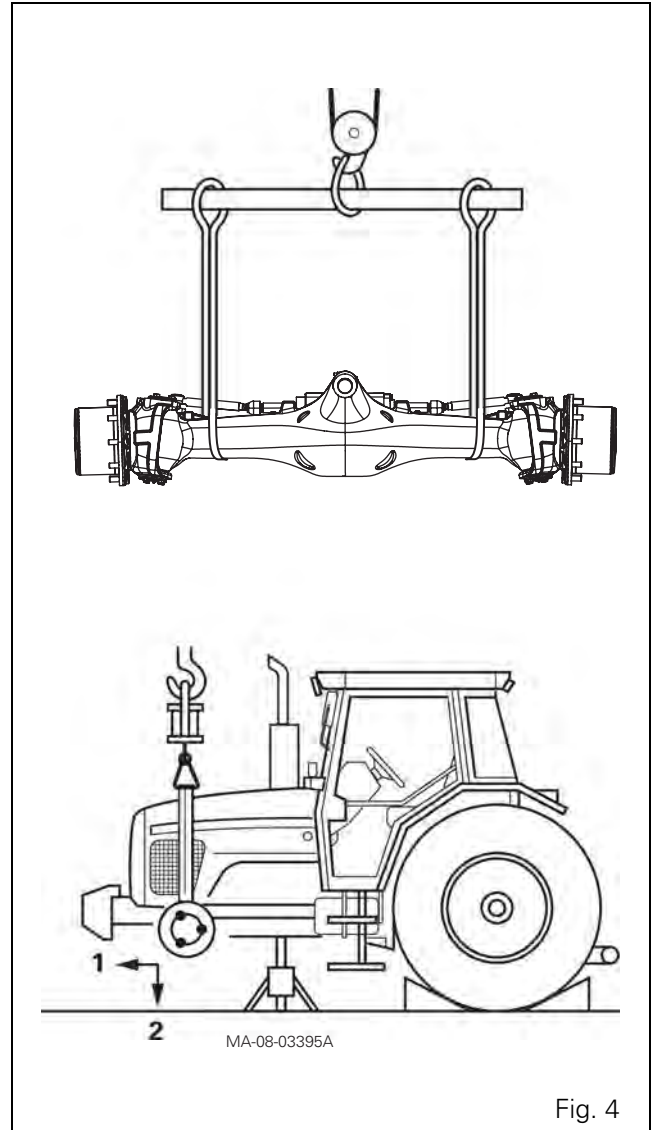

Fig. 4
7. Sling the front axle using suitable straps (Fig. 4).